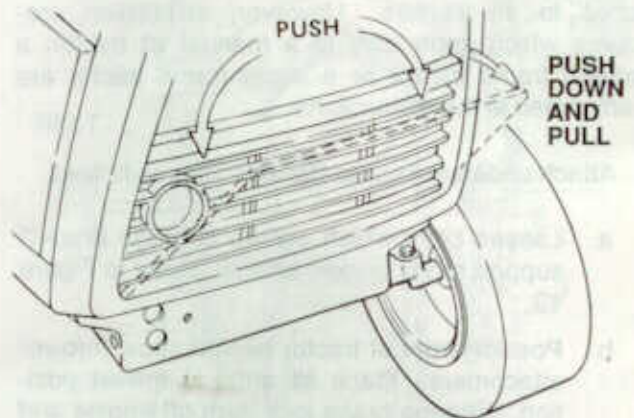
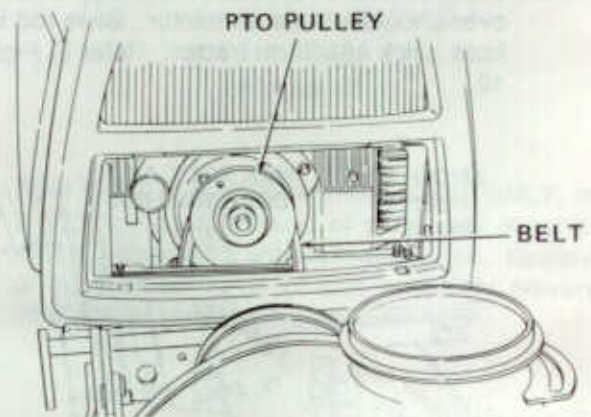

Figure 24
Figure 25
- a. Remove the grille insert by pushing down on top of grille insert and pull forward as shown in Figure 24. Lift grille insert up removing tabs from bottom of grille housing. Roll belt onto PTO pulley on front of tractor as shown in Figure 25.